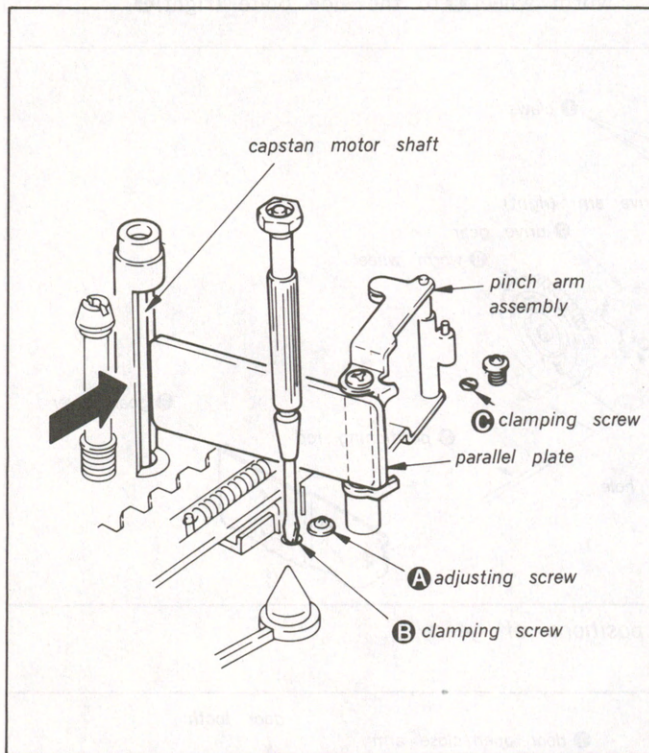

Fig. 7-24.
- 4) As shown in Fig. 7-24. apply the parallel plate vertically to the capstan motor shaft and to the No. 10 guide shaft of the pinch arm assembly.